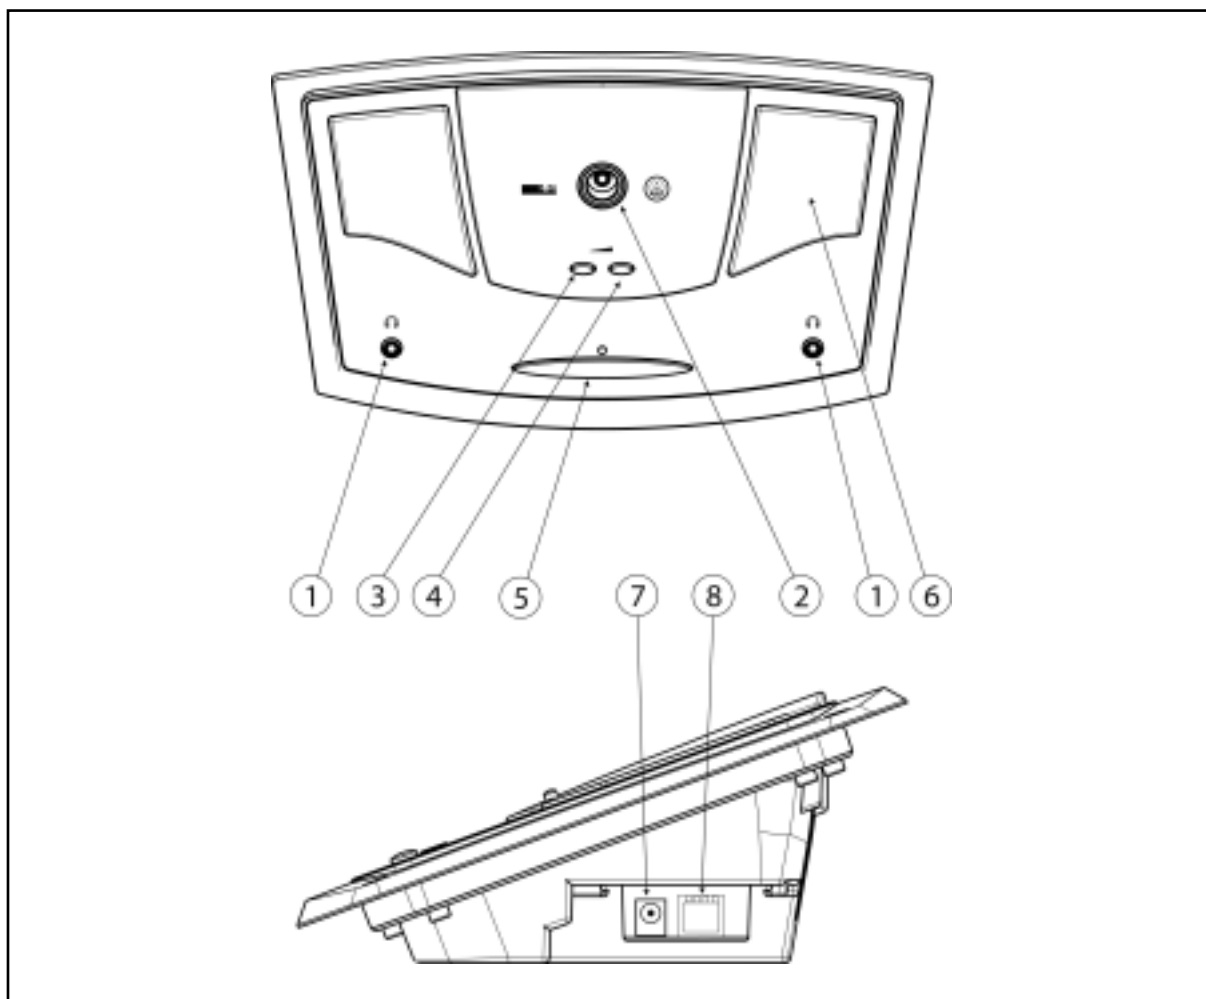

Fig. 4: Controls, inputs, and outputs on the CS5 DU.
- Refer to fig. 4 on page 18.
2. Screw the gooseneck into the microphone input (2).
- Fig. 4, p. 18.